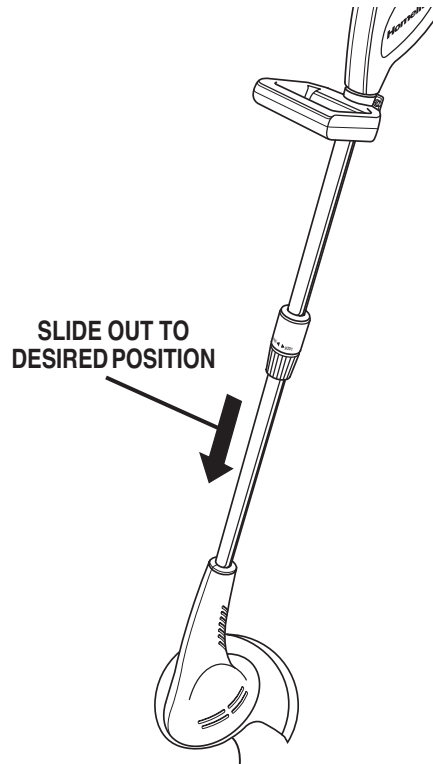

Fig. 4
- Lower shaft should now be free to slide down from inside the upper shaft. Make sure the shaft is pulled out to the desired position. See Figure 4.